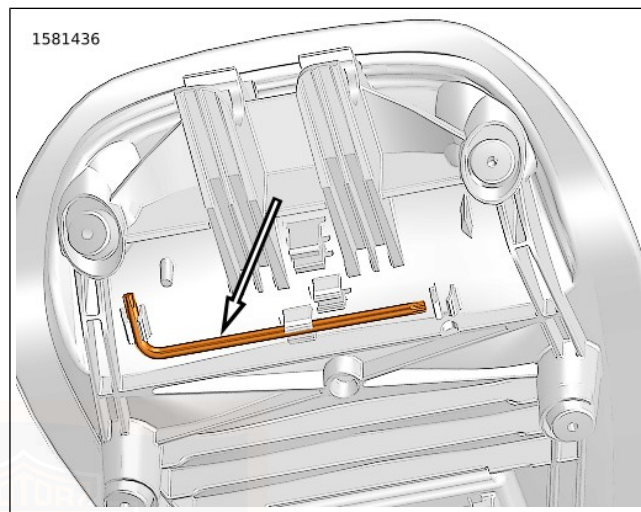

Figure 68. Headlight Adjustment Tool
2. See Figure 68. Remove headlight adjustment tool from bottom of seat.